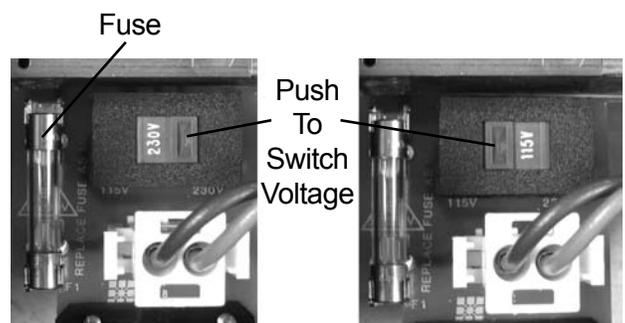

Figure IS-21 Select Voltage
Note: The visible number shows what the voltage is set to. Options are either 115V or 230V. Refer to Figure IS-21.
4. Remove the Fuse that comes standard with the LongLife POC by lifting it straight out of the fuse holder. Refer to Figure IS-21.
5. Replace it with a A=.25, V=250, Non-Time Delay (fast acting) .25 Diameter x 1.25 LG (3AG) fuse, and press it into place in the Fuse Holder until it snaps into place. Refer to Figure IS-21.